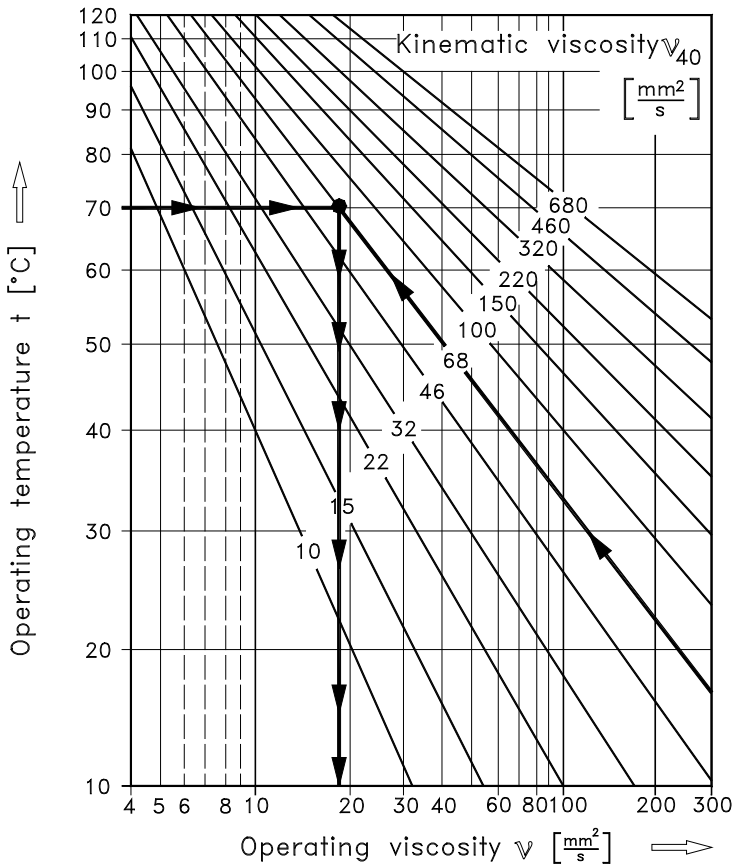

Fig. 6.10
The **v-t-diagram** (fig. 6.10) shows the correlation of the most common grades of nominal viscosity  $\nu_{40}$  for mineral oil based lubricants.
**Step 3:** Follow the line of the kinematic oil viscosity  $\nu_{40} = 68 \text{ mm}^2 / \text{s}$  in diagram fig. 6.10 until crossing the line representing the operating temperature  $t = 70^\circ\text{C}$  ( $158^\circ\text{F}$ ). Strike a line downwards to the horizontal axis to get the viscosity  $\nu$  for this operating temperature. In this example the (actual) operating viscosity  $\nu$  is approximately  $18 \text{ mm}^2 / \text{s}$ .
(see evaluation in fig. 6.10)